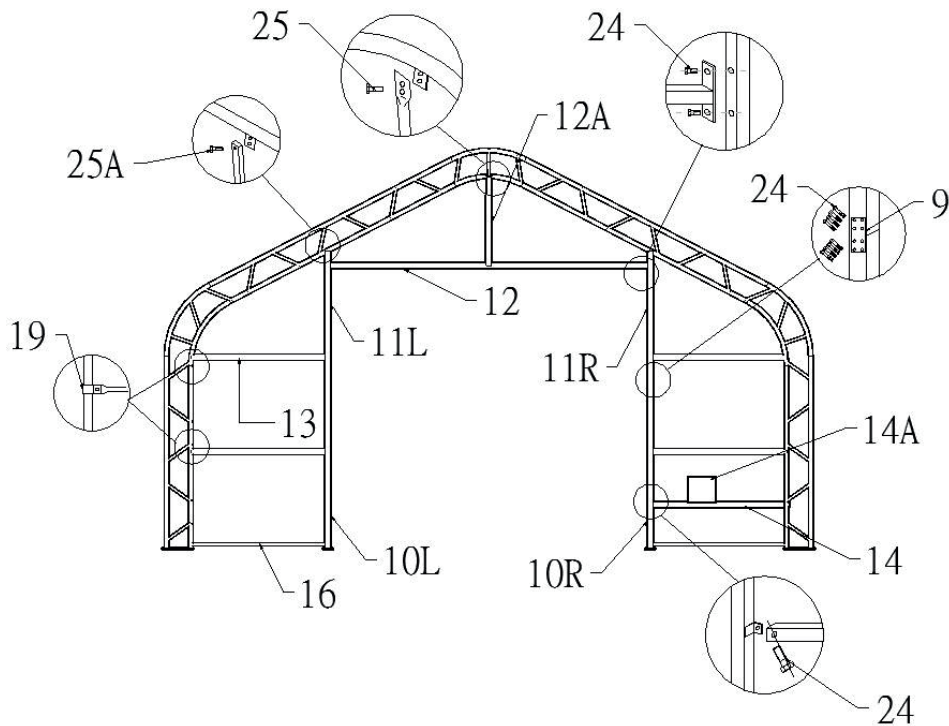

Figure 6: Front and Back door
1. Figure 6 shows to assembly the front and back walls’ frame.